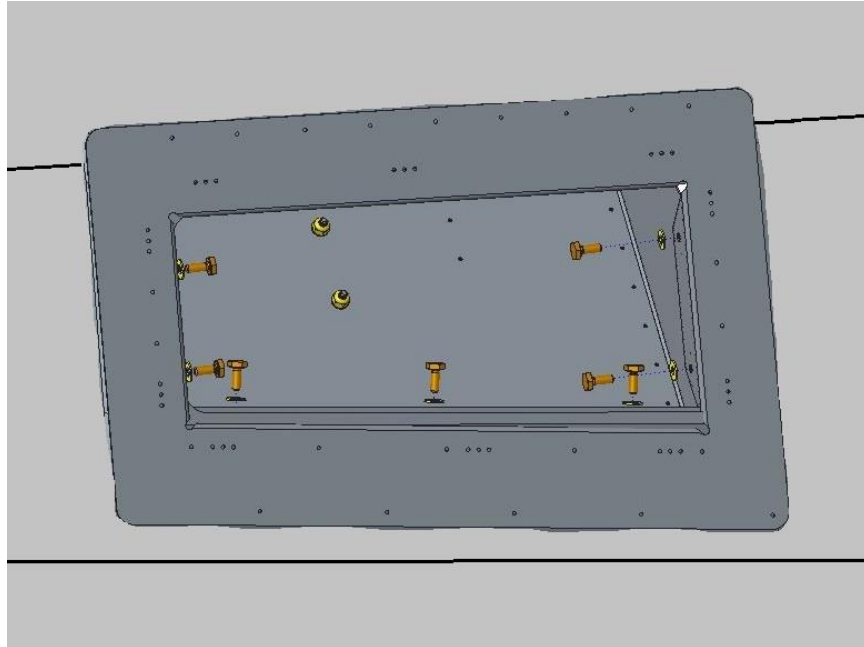

Figure 2 - Unbolt Waterdam/Controller Assembly
- B. Disconnect the Waterdam/Controller Assembly from the frame by unbolting the (7) AN-3 bolts along the sides and bottom of the assembly and set aside for re-use. Take care not to allow the assembly to fall on to the components within. See Figure 2.